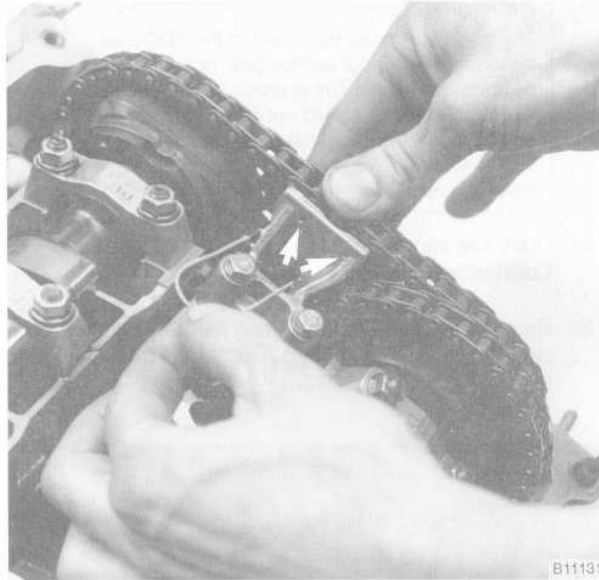

Fig. 16. Secondary timing chain tensioner being locked down. Press tensioner down fully and insert locking wire through holes (arrow).
27. Depress the secondary timing chain tensioner and lock it in the down position by inserting BMW special tool no. 11 3 290. Alternatively, a stiff piece of wire can be used. See Fig. 16.